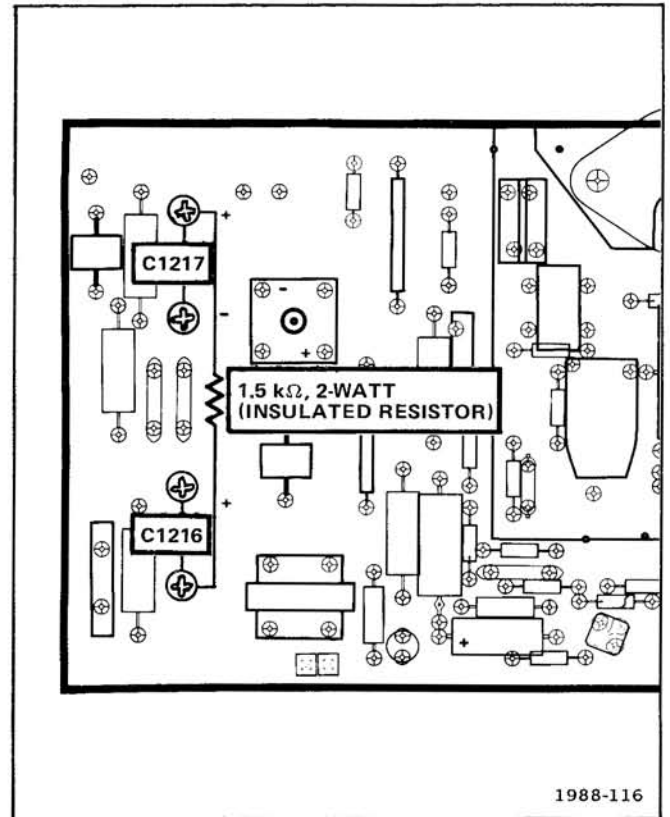

Figure 5-11. Location of line storage capacitor screws used to manually discharge C16 and C17.
2. Apply a 1.5 kilohm, 2-watt, insulated resistor across the capacitor screws as indicated in Figure 5-11.